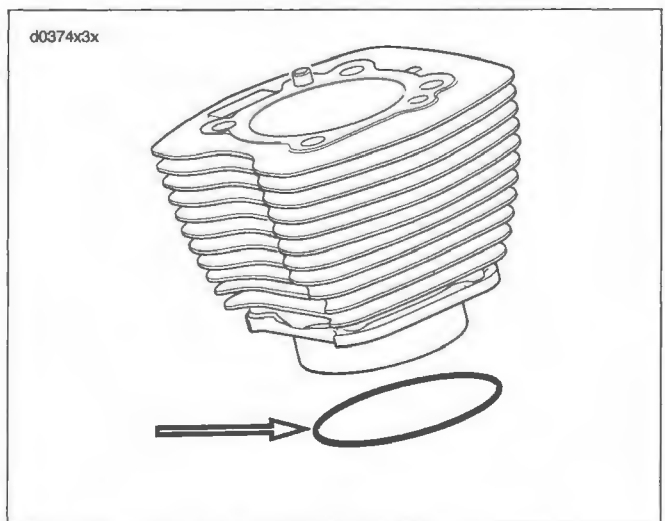

Figure 3-32. O-ring Seal For Cylinder
2. See Figure 3-32. Apply a very thin film of clean H-D 20W50 engine oil to new O-ring seal for the bottom of the cylinder liner. Install new O-ring seal.